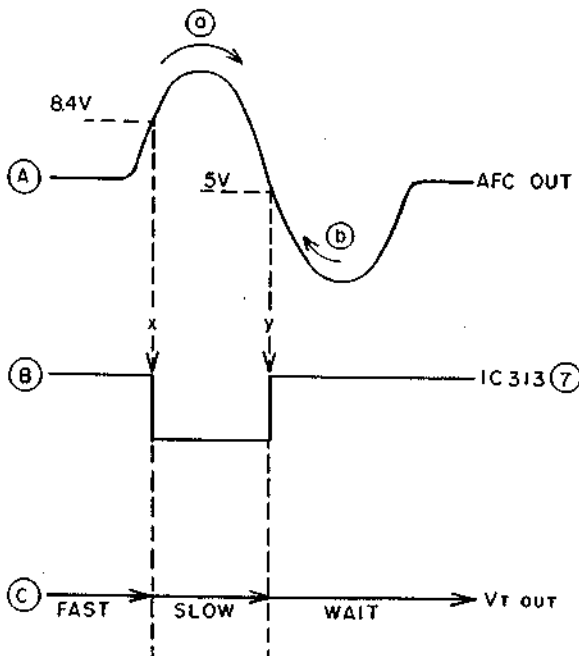
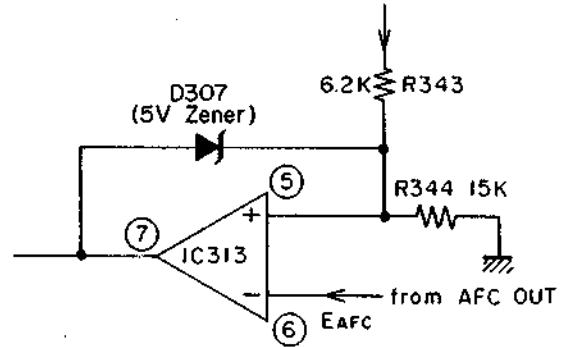

Fig. 27
Fig. 28
- 4) When the tuner receives broadcast or noise, the waveform shown in Fig. 27 is outputted at AFC OUT. This AFC output is inputted in IC313 ⑥. This circuit is called AFC comparator and the operation is described by using Fig. 28.
8 bits output from microcomputers ⑬ ~ ⑳ is inputted into IC309 D-A converter IC309 ⑤ ~ ⑫, taken out of IC309 ④ as analogue current output, converted into analogue voltage by IC310, and CR302 and added to Analogue SW IC311 ①. On the other hand, IC307 ㉑ → 'L' → TR310 → ON → IC311 ⑥ → H → IC311 ⑧ - ⑨ → ON → C306 (terminal voltage) is passed through R351 (When UHF, ON between TC311 ③ and ④, so directly), added to IC312 ⑥, inverted by IC312 and added to IC310 ②. This terminal voltage of C306 will be the reference voltage in tuning. (This reference voltage is a little higher than the flat portion of Fig. 27, and the reason is that it can be drawn sufficiently even when it enters the ⑤ part).
7) IC313 (7) changes at the exact tuning point or near to it as shown by y point of Fig. 27 (B). The VT changes slowly because it passes the differentiation circuit after IC309 (DA converter). Therefore, the scanning is finished at a point beyond the best tuning point. Here, after one step down, the exact tuning point is checked by the program incorporated within the microcomputer IC307. If the exact tuning point is the place where one step is returned, it is kept as it is, but if different, one step is returned to the original place. After AFT is turned ON, video or noise is determined.